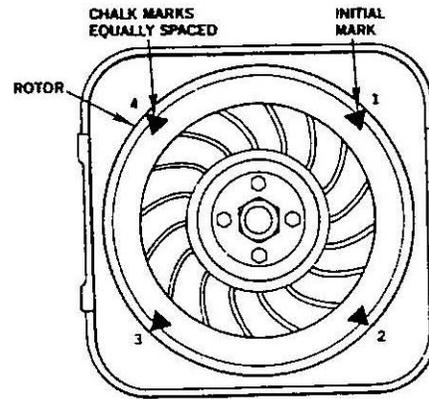

Figure 5
**Step 2** Mark off 3 other positions on the rotor as illustrated. Figure 5.